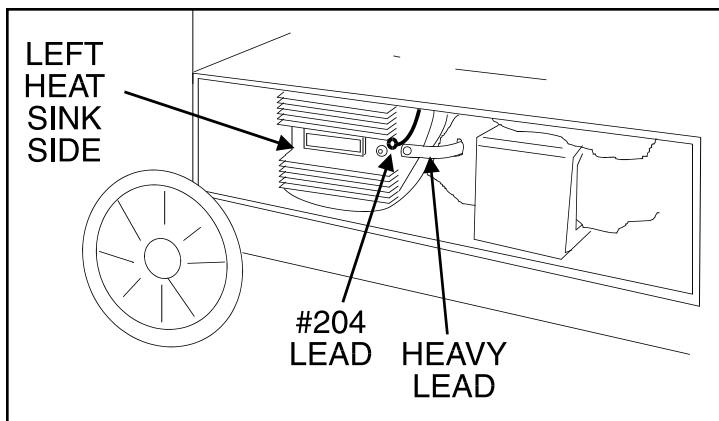

FIGURE F.13 - Heat Sink lead disconnection.
2. Disconnect lead #204 and heavy lead from the middle heat sink with a 1/2" socket wrench and 1/2" open end wrench. See Figure F.13.